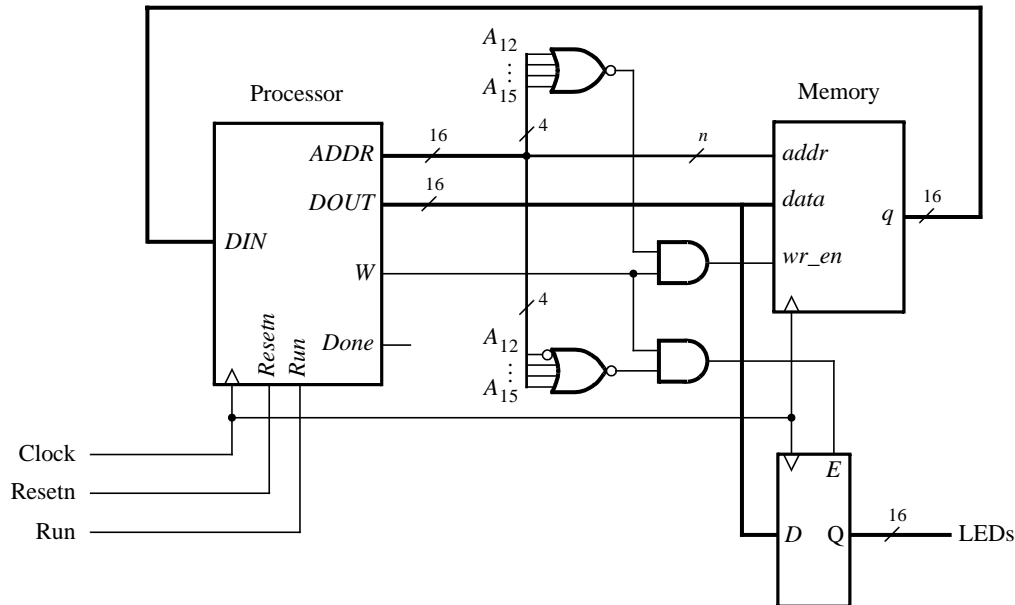

Figure 8. Connecting the enhanced processor to a memory and output register.
Figure 8 illustrates how the enhanced processor is connected to memory and other devices. The memory unit in the figure supports both read and write operations and therefore has both address and data inputs, as well as a write enable input. The memory also has a clock input, because the address, data, and write enable inputs must be
loaded into the memory on an active clock edge. This type of memory unit is usually called a *synchronous random access memory (synchronous RAM)*. Figure 8 also includes a 16-bit register that can be used to store data from the processor; this register might be connected to a set of LEDs to allow display of data on the DE2 board. To allow the processor to select either the memory unit or register when performing a write operation, the circuit includes some logic gates that perform *address decoding*: if the upper address lines are $A_{15}A_{14}A_{13}A_{12} = 0000$, then the memory module will be written at the address given on the lower address lines. Figure 8 shows n lower address lines connected to the memory; for this exercise a memory with 128 words is probably sufficient, which implies that $n = 7$ and the memory address port is driven by $A_6 \dots A_0$. For addresses in which $A_{15}A_{14}A_{13}A_{12} = 0001$, the data written by the processor is loaded into the register whose outputs are called *LEDs* in Figure 8.
2. Write VHDL code for the processor and test your circuit by using functional simulation: apply instructions to the *DIN* port and observe the internal processor signals as the instructions are executed. Pay careful attention to the timing of signals between your processor and external memory; account for the fact that the memory has registered input ports, as we discussed for Figure 8.
3. Create another Quartus II project that instantiates the processor, memory module, and register shown in Figure 8. Use the Quartus II MegaWizard Plug-In Manager tool to create the RAM: 1-PORT memory module. Follow the instructions provided by the wizard to create a memory that has one 16-bit wide read/write data port and is 128 words deep. Use a MIF file to store instructions in the memory that are to be executed by your processor.
Connect the *LEDs* register in Figure 8 to *LEDR₁₅₋₀* so that you can observe the output produced by the processor.
1. Create a Quartus II project for your circuit and write the VHDL code that includes the circuit from Figure 8 in addition to your *seg7_scroll* module.